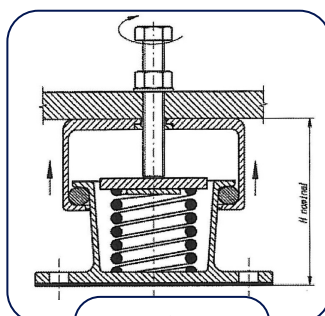

FIG. 4
The maximum height or unloaded height, (H) [fig. 4] of the steel spring isolator is the height of the steel spring isolator as supplied. This maximum height must never be exceeded. If the maximum height is exceeded the rubber O-ring is squashed and the steel spring is blocked. This means that the steel spring isolator becomes rigid and is no longer effective as a vibration isolator. The vibrations of the machine will be transmitted through the rigid steel spring isolator into the foundation.
- Further screwing of the leveling bolt will cause the top cover assembly to lift relative to the base casting. As the end of the leveling bolt presses against the pressure plate, the threaded insert in the top cover assembly is being screwed up the leveling bolt, so the top cover, and the machine will begin to rise [fig. 4].